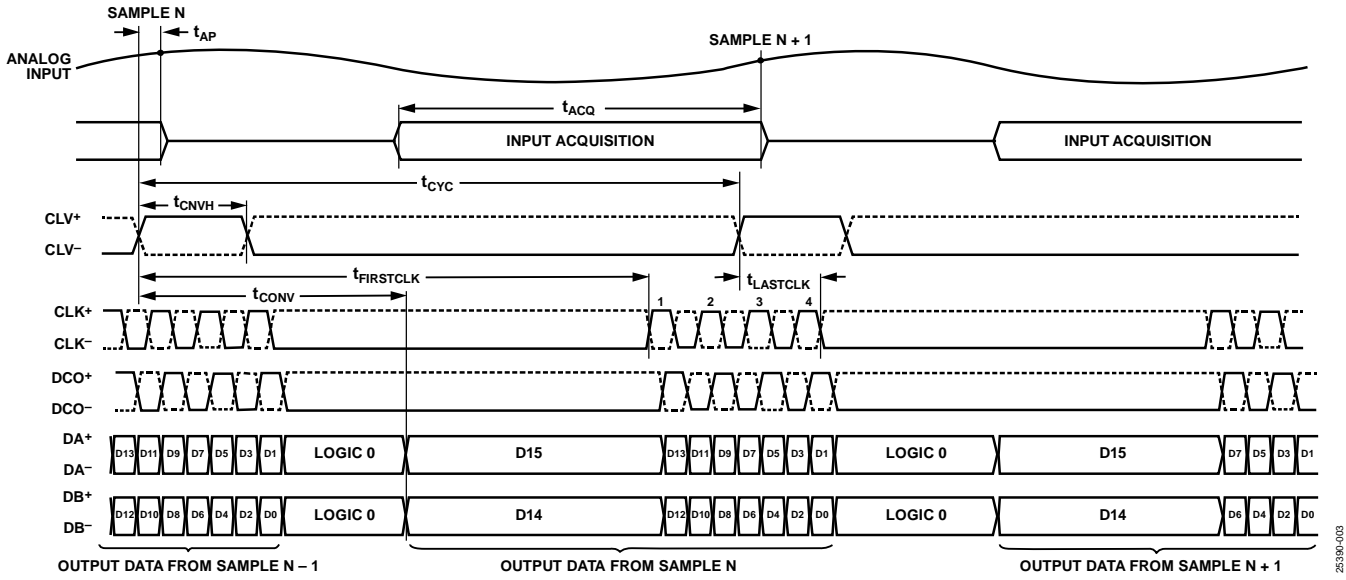

Figure 3. Two-Lane Output Mode
- ³ The differential input ranges, V_{IN} should be within allowed input common-mode range as per Figure 3 to Figure 7 and is dependent on the VS+/VS- supply rails used.